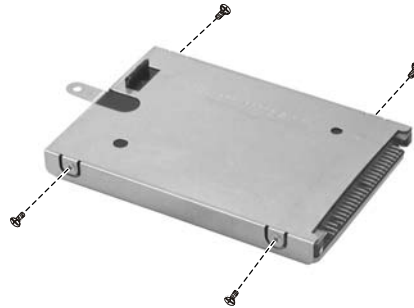

Figure 2-11 Free the HDD drive
4. Loosen the four screws to separate the hard disk drive from the bracket. (Figure 2-11)